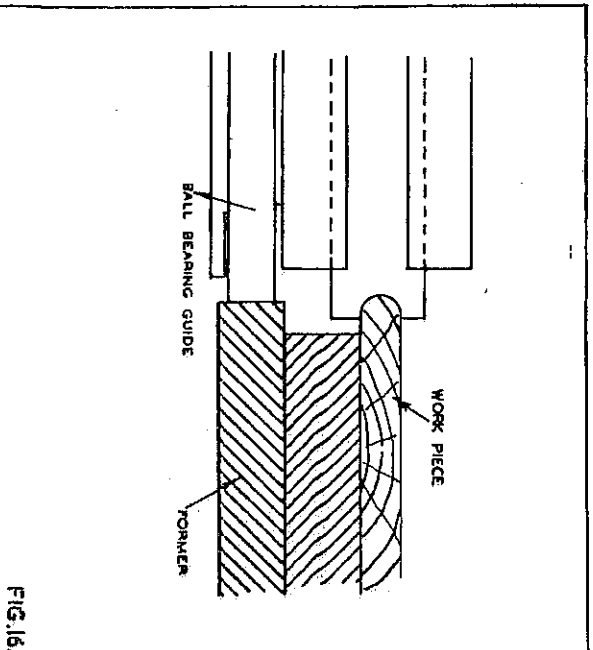

FIG. 16.
**SHAPED PANEL ON SLOTTED COLLARS FIG. 16.**